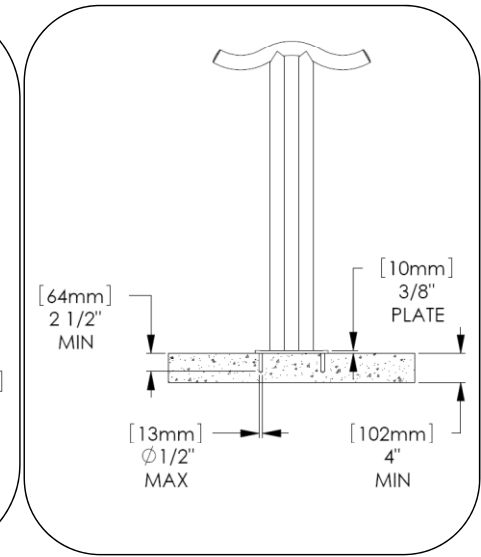

Fig. 2 – Surface Mount
2. Move the unit and drill the holes, recommendations noted in Fig. 2.